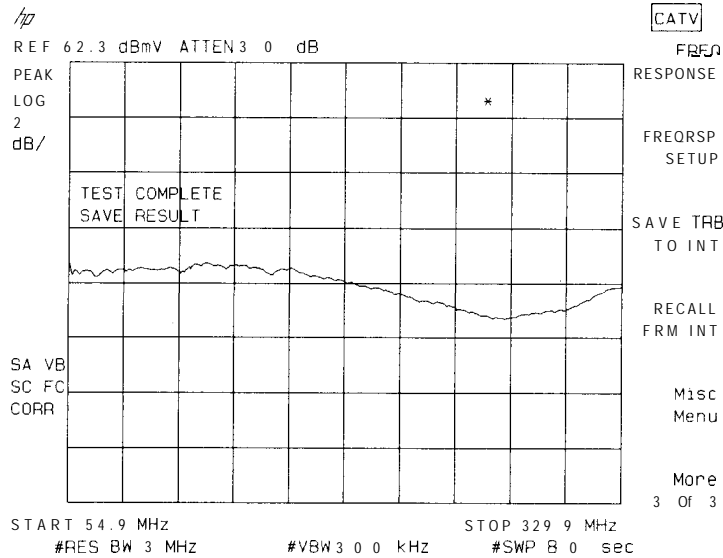

Figure 2-21.
- To stop the test, press STOP TEST. This will stop the measurement and display the frequency response trace as shown in Figure 2-21.